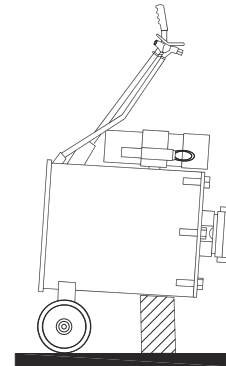

Figure 3
6. When jack is not in use, tip it forward until it rests on the wheels and use extra support to hold the jack as shown in Figure 3. This allows trapped water to drain from inside the cylinder.